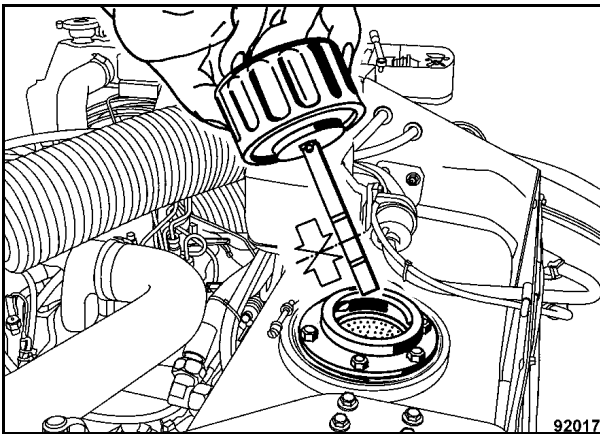

Fig. 17
27. Check the hydraulic oil level (Fig. 17), top up if necessary.